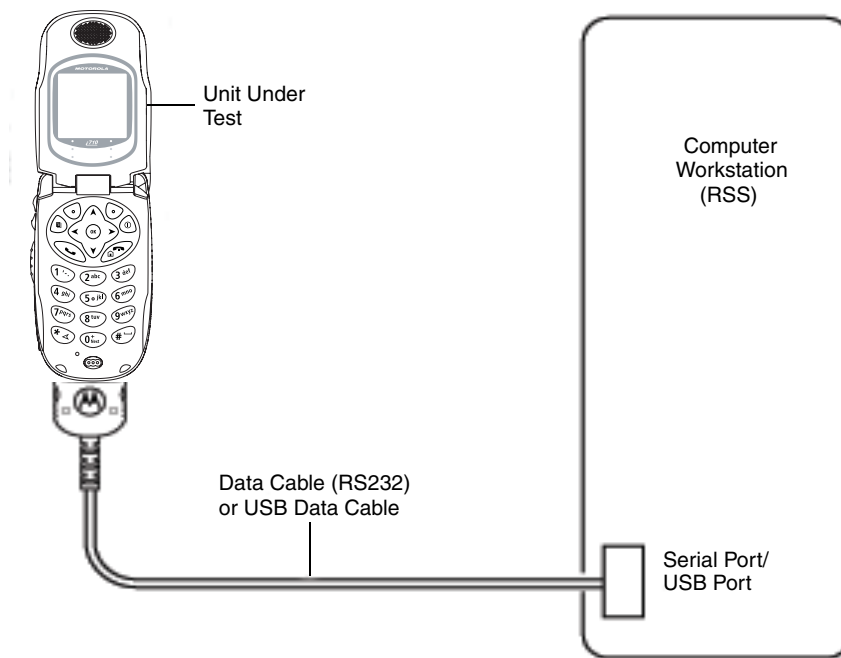

Figure 6-3. Data Cable Programming Setup
- Correct serial/RS-232 Data Cable or USB Data Cable for iDEN unit (see Figure 6-3).